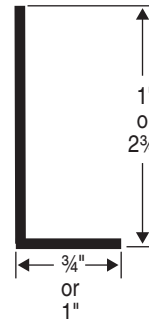

Figure 10
- ① "L" Angles come in 12'3" (3/4" x 1") or 16' (1" x 2 3/4") lengths and must be cut to the height required available. Measure and cut Clip and Closure extrusions to fit installation requirements (see Fig. 10).